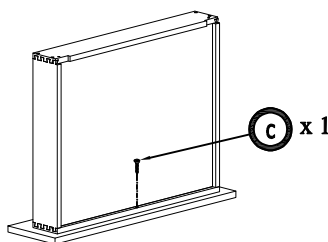

Figure 5
5. Assemble 4 plastic corner by screwdriver and 8 screw 1/2" (Figure 5)
5. Assemble the screw 1" from drawer box front with drawer front into the free hole in the drawer front (Figure 5)